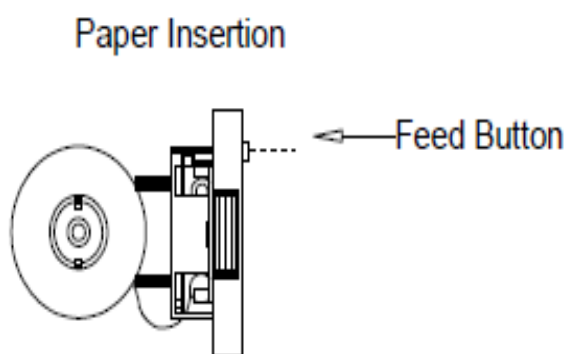

Figure 3. Paper Insertion
6. Feed the cut end of the paper into the slot at the bottom of the printer as shown in Figure 3. Push the feed button on the front of the printer until about 1" of paper comes out the front of the printer.